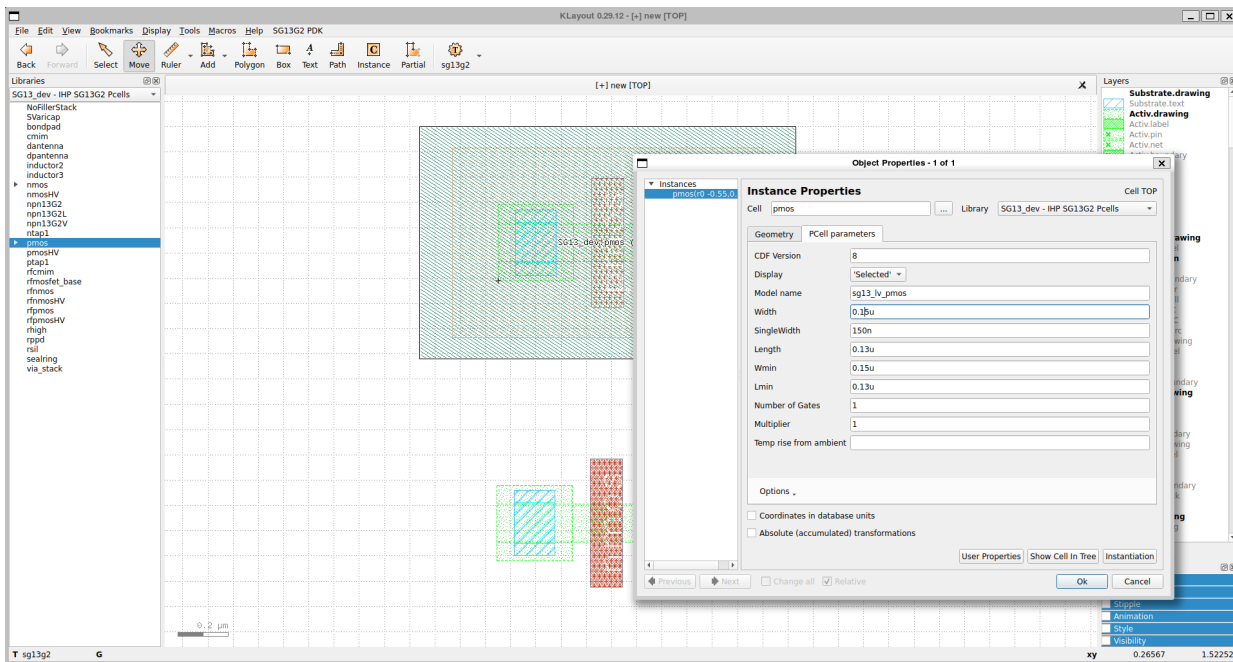

Figure 18: Parameters Window
7. Double-click on the PCell to open its parameter editor. Set parameters like the width and length values to match those used in your **Xschem schematic**, then click OK to apply the changes refer Figure 18